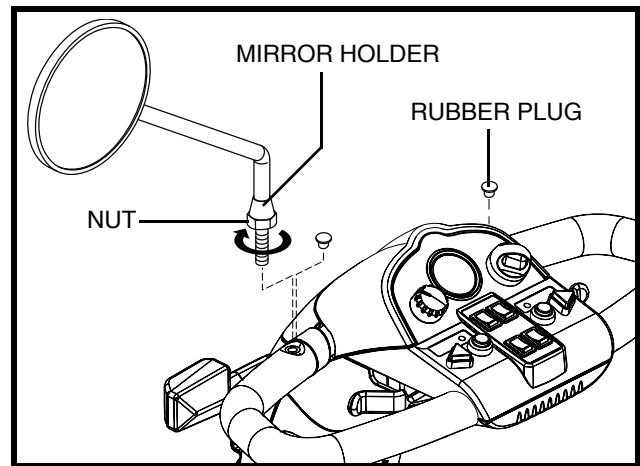

Figure 15. Mirror Installation and Positioning
**To install the mirror (see figure 15):**